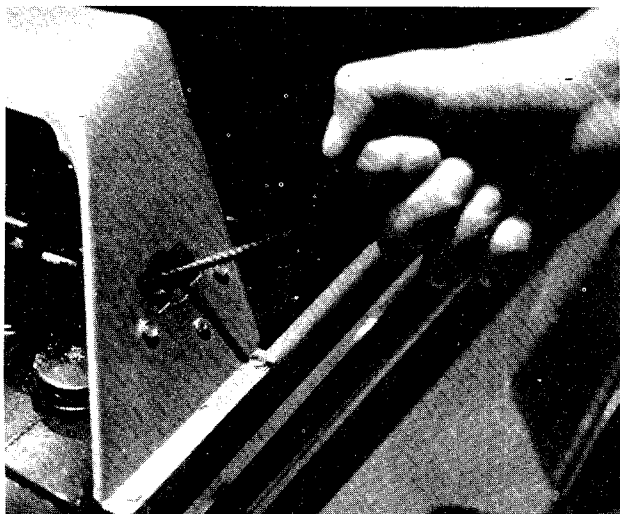

FIGURE 4. RECOIL STARTER
7. Turn the ignition key to the ON position, twist the recoil starter handle until it is free and pull it with a quick steady motion. After the engine starts, return the recoil starter handle and twist it until it locks. See figure 4.